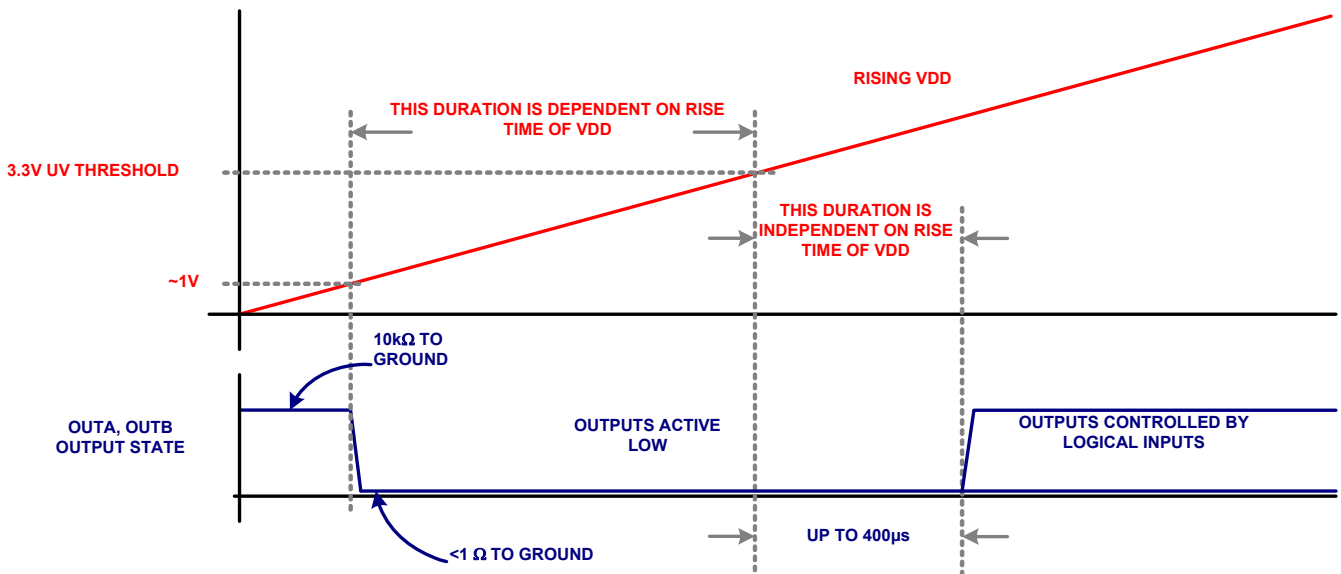

FIGURE 9. START-UP SEQUENCE
- A 400 $\mu\text{s}$  delay further inhibits the release of the output state when the UV positive going threshold is crossed. See Figure 9
ground, help to keep the gate voltage close to ground. When  $\sim 1V < V_{DD} < UV$ , both outputs are driven low while ignoring the logic inputs. This low state has the same current sinking capacity as during normal operation. This insures that the driven FETs are held off even if there is a switching voltage on the drains that can inject charge into the gates via the Miller capacitance. When  $V_{DD} > UVLO$ , and after a 400 $\mu s$  delay, the outputs now respond to the logic inputs. See Figure 9 for complete details.